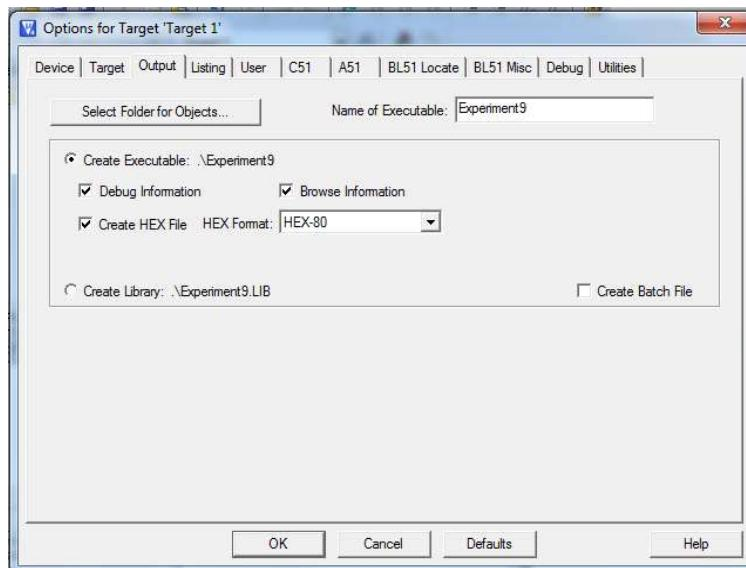

Figure 9.10: Selecting HEX file option.
- 11) Go to Output tab in the same window and check the box “Create HEX File” as shown in Figure 9.10. Then Press OK.